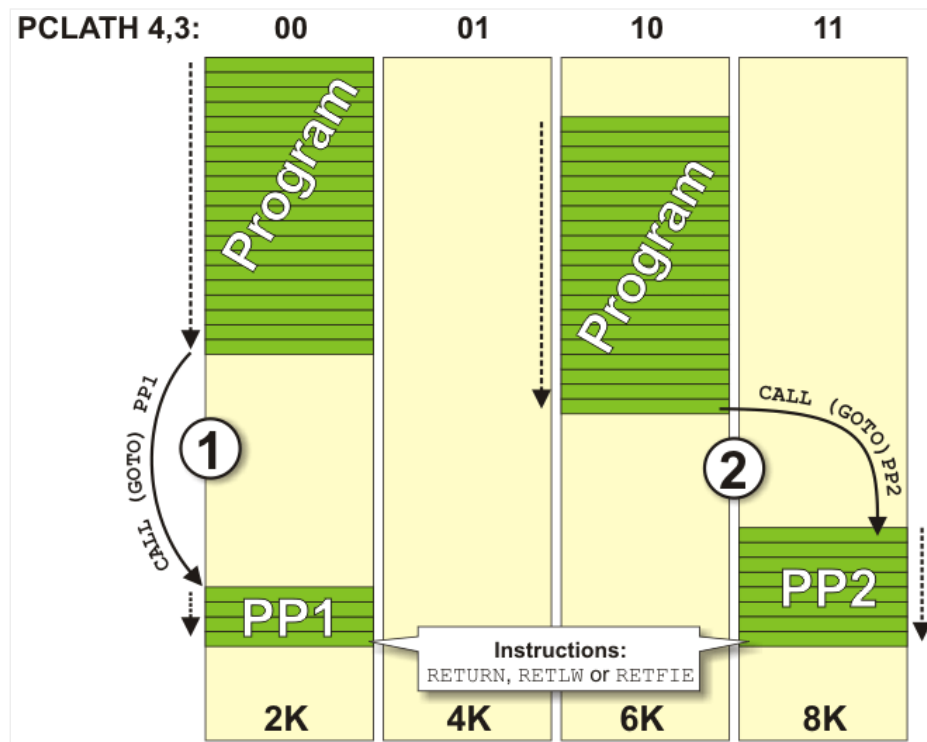

Fig. 2-17 PCLATH Registers
- On subroutine call or jump execution (instructions CALL and GOTO), the microcontroller is able to provide only 11-bit addressing. For this reason, similar to RAM which is divided in “banks”, ROM is divided in four “pages” in size of 2K each. Such instructions are executed within these pages without any problems. Simply, since the processor is provided with 11-bit address from the program, it is able to address any location within 2KB. Figure 2-17 below illustrates this situation as a jump to the subroutine PP1 address.
However, if a subroutine or jump address are not within the same page as the location from where the jump is, two “missing”- higher bits should be provided by writing to the PCLATH register. It is illustrated in figure 2-17 below as a jump to the subroutine PP2 address.